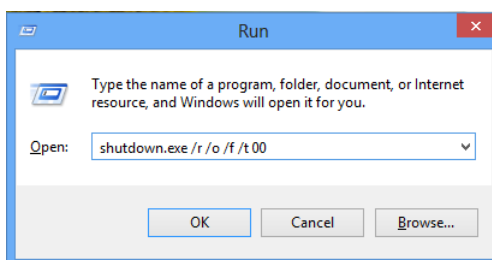
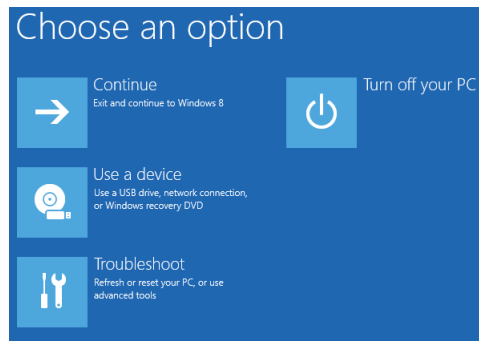

图 31. Step 1: Disable Windows 8 Driver Enforcement
图 32. Step 2: Disable Windows 8 Driver Enforcement
2. Type `shutdown.exe /r /o /f /t 00` in the Open field, then press the *OK* button (see 图 31). A reboot occurs and the advanced startup menu is displayed (see 图 32).